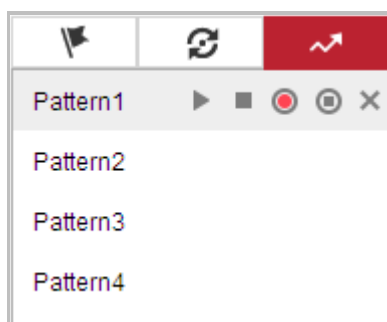

Figure 4-11 Patterns Settings Interface
2. Select a pattern number from the list as shown in Figure 4-11.